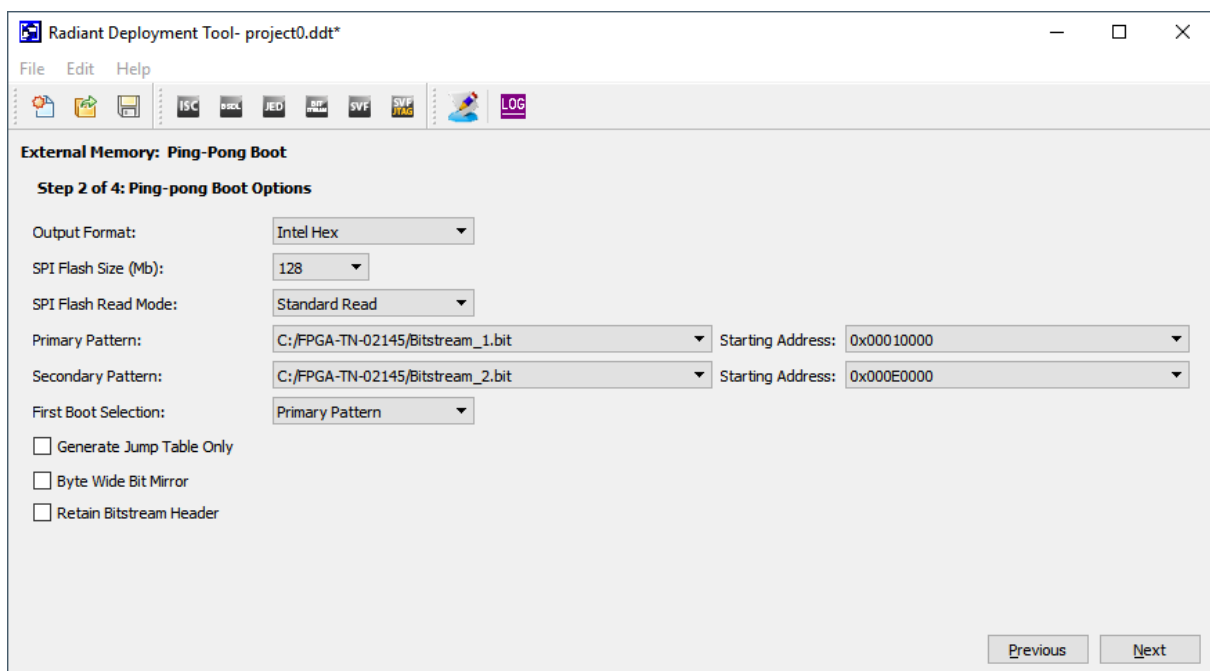

Figure 6.8. Ping-Pong Boot Options Window
Step 2 of 4: Ping-Pong Boot Options window (Figure 6.8)